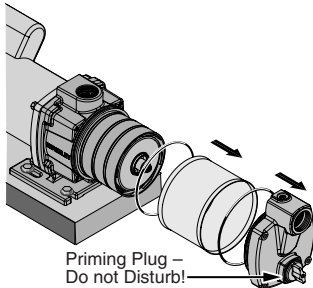

Figure 17
NOTICE: Do not disturb the priming valve (see Figure 17). It is NOT a drain plug!
6. Pull the pump suction body forward (see Figure 17). Remove the sleeve (Key No. 8) by pulling it straight forward. Be careful not to damage the O-rings on the bracket and suction body.